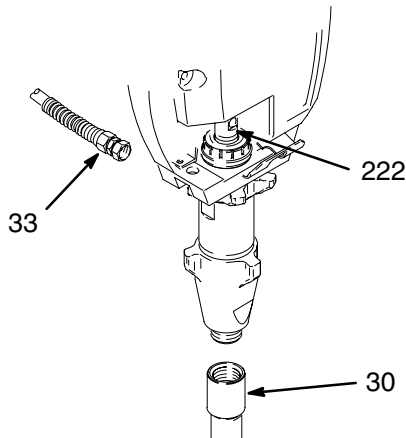

Fig. 16
2. Fig. 16. Cycle pump piston rod (222) to lowest position.
4. Fig. 16. Remove suction tube (30) and hose (33).